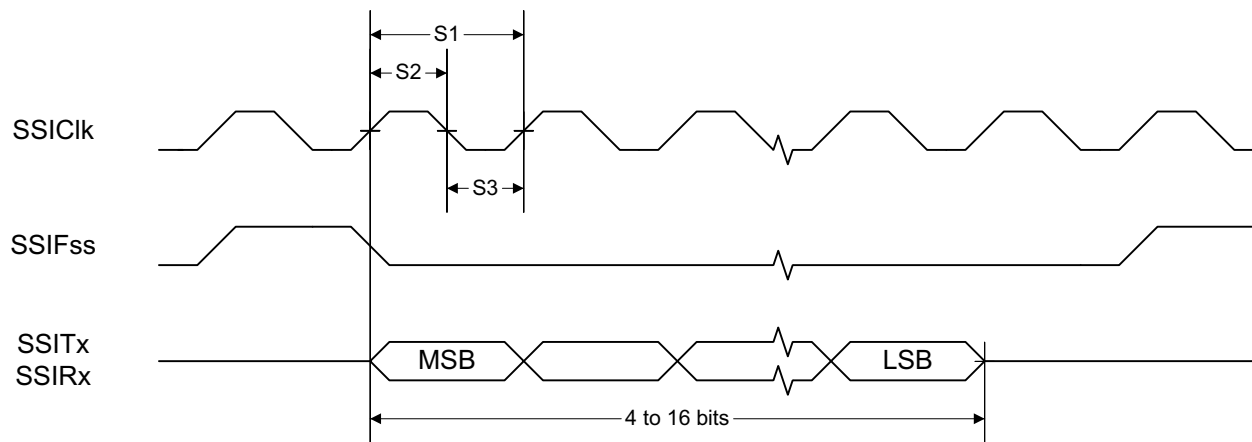
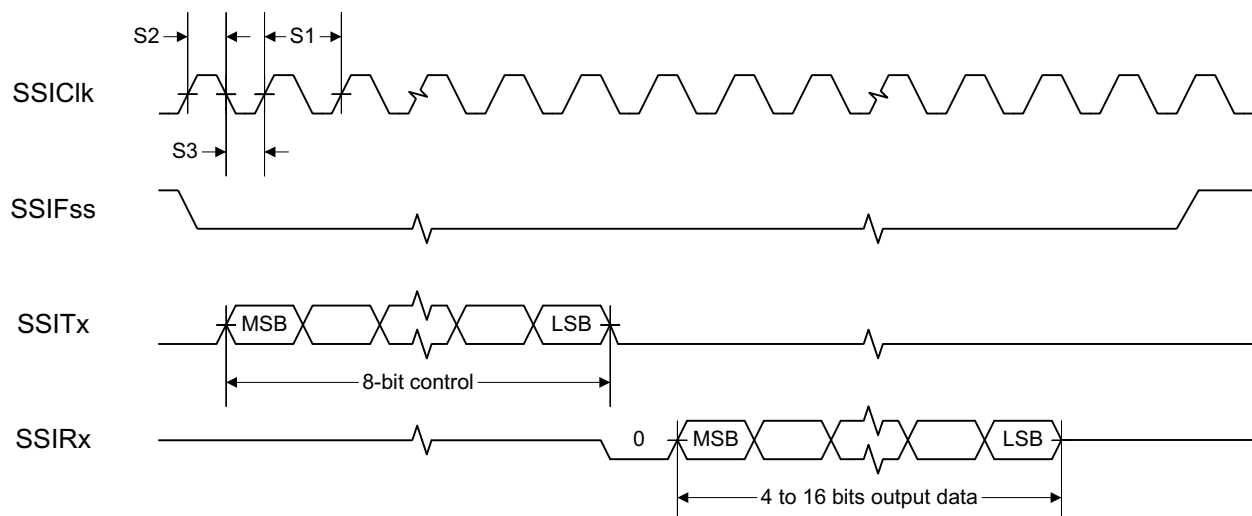
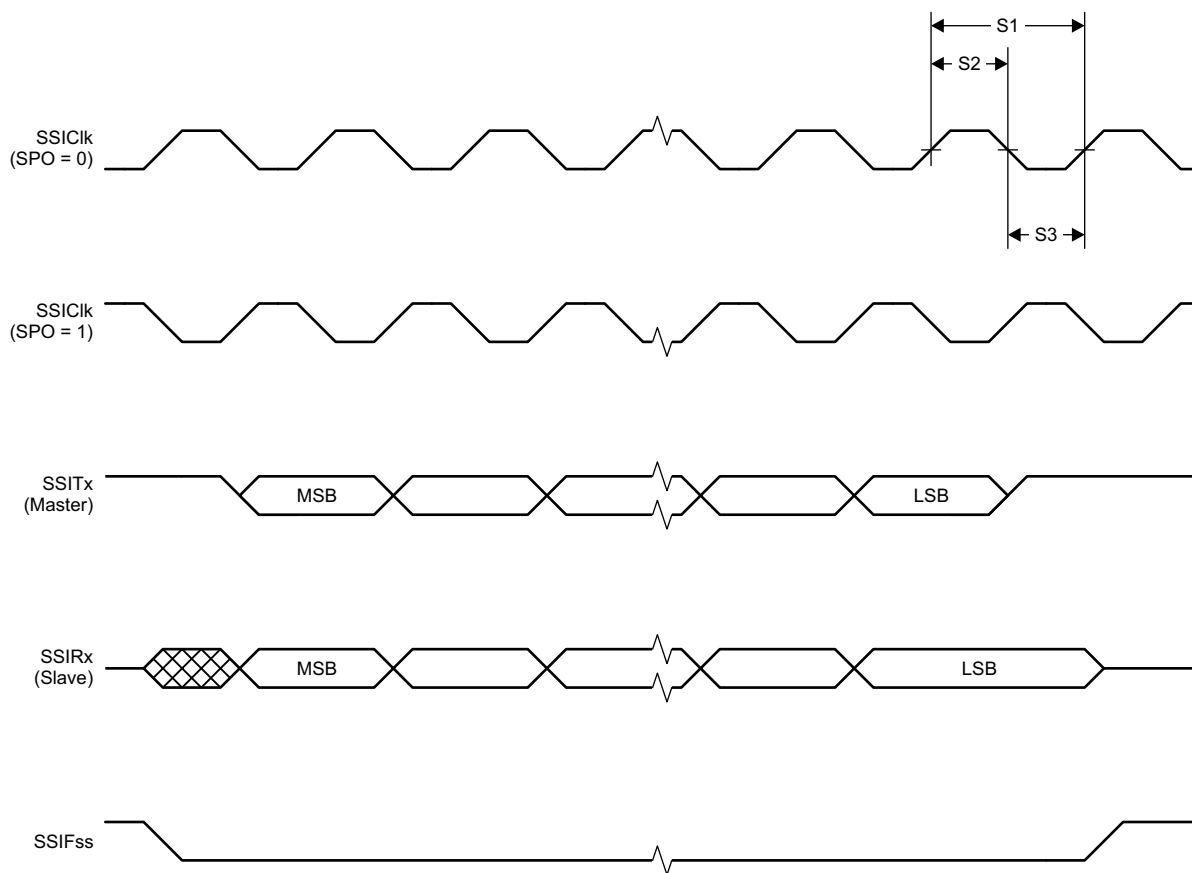

Figure 8-1. SSI Timing for TI Frame Format (FRF = 01), Single Transfer Timing Measurement
Figure 8-2. SSI Timing for MICROWIRE Frame Format (FRF = 10), Single Transfer
Figure 8-3. SSI Timing for SPI Frame Format (FRF = 00), With SPH = 1
(1) Refer to SSI timing diagrams Figure 8-1, Figure 8-2, and Figure 8-3.
(2) When using the TI-provided Power driver, the SSI system clock is always 48 MHz.